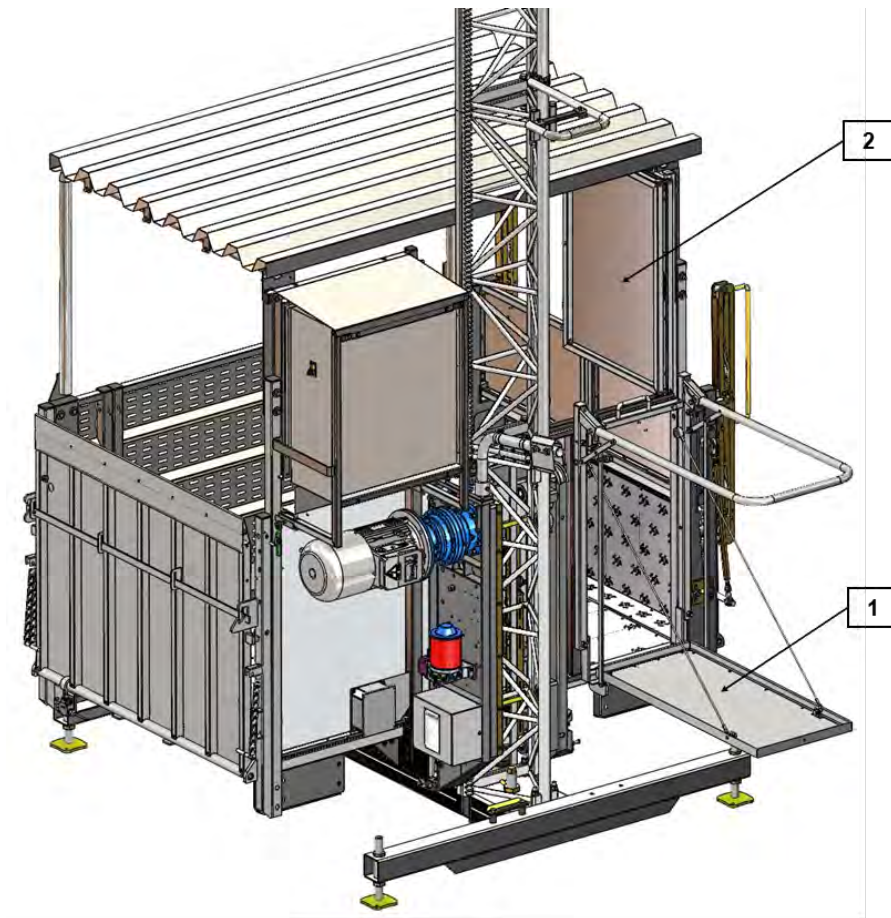

Figure 8.3
The guards are shown in Figure 8.3; the erection platform (1) is the fold out platform used for assembling the wall anchors, and the mast guard (2).